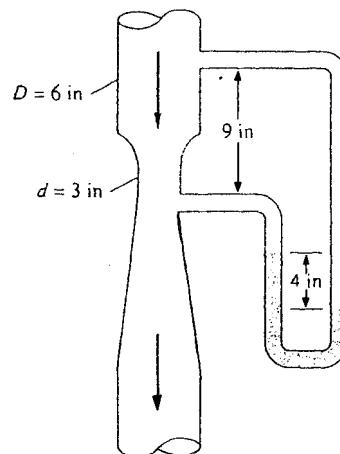

Fig. P6.156
**6.156** Ethanol at 20°C flows down through a modern venturi nozzle as in Fig. P6.156. If the mercury manometer reading is 4 in, as shown, estimate the flow rate, in gal/min.